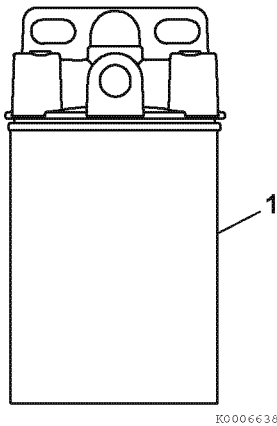

Figure 6-36
3. Unscrew and remove filter cartridge (1, **Figure 6-36**).